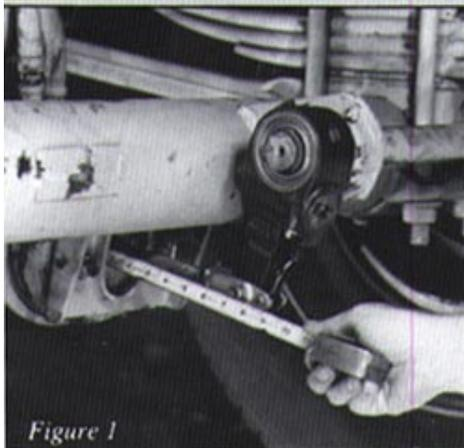

Figure 1
- Measure from the face of the brake chamber to the center of the clevis pin at all wheel locations (figure 1).